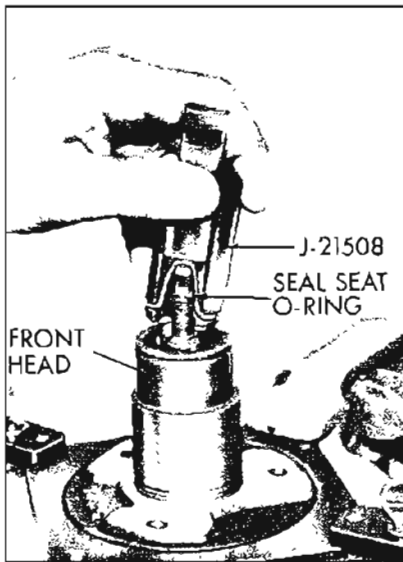

Figure 11-57—Installing Seal Seat O-Ring
9. Liberally coat seal seat "O" ring with 525 viscosity oil and insert "O" ring into hub of front head (see Figure 11-57) with seal seat "O" ring Installer (J-21508).